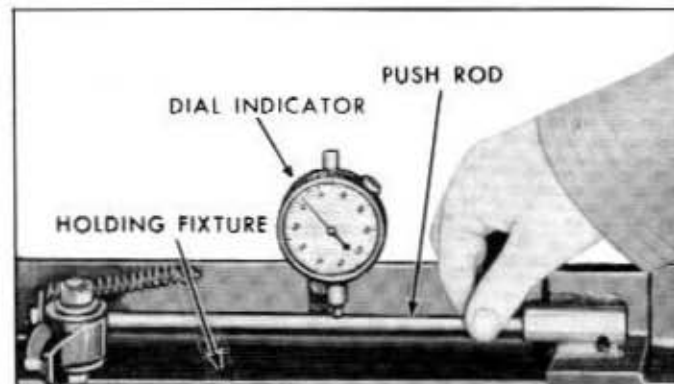

Fig. 6A-71—Checking Valve Push Rod—Typical—(60C-5671)
- c. Install the valve rocker arms, supports, and springs in the order shown in figure 6A-15. Be sure the oil holes in the shaft are facing down.